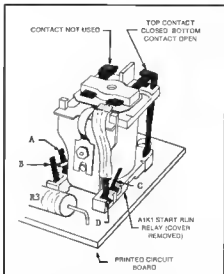

FIGURE 5-10 START-RUN RELAY A1K1 (SPEC 01)
- Take out the printed circuit board and remove the cover from the Start-Run relay A1K1 (marked "K" on board). See Figure 5-10 for references during tests.
- With the VOM set at x10, measure resistance between A and B — should be approximately 34 ohms. Resistance between A and C or B and C should be approximately 650 ohms (x100 scale). As shown in Figure 5-10, the top K1 contact should be closed, the bottom contact open. There should be continuity between the top contact and point D.